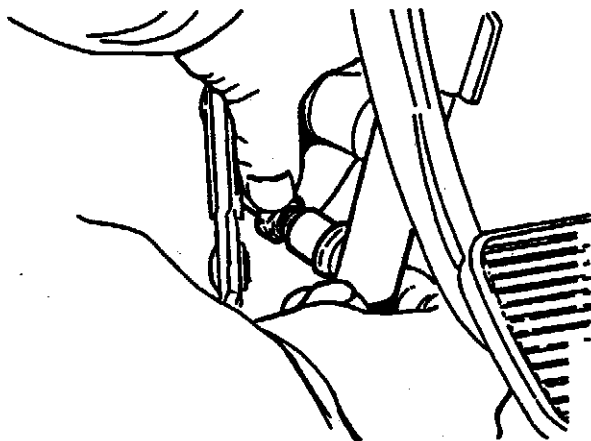

Figure 4. Screw the pressure pipe fitting into the master cylinder but do not tighten.
17. Screw the pressure pipe fitting into the master cylinder but do not tighten (Figure 4).